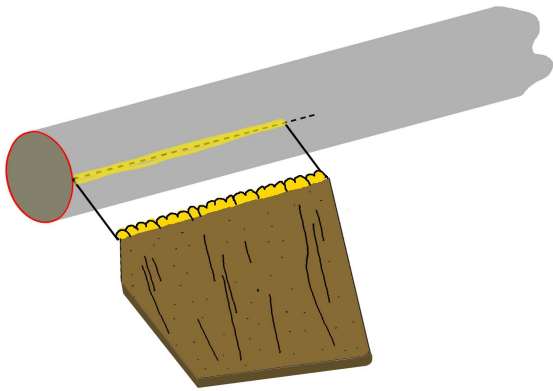

Figure 5
- Step 12** Apply glue to one of the fin lines, directly on top of the thin glue layer applied previously. Apply a similar bead to the root edge of one fin. As shown in Figure 5, carefully press the fin root into the glue on the line, aligning the root edge of the fin with the bottom edge of the tube. Hold the fin in place for about 15 seconds before releasing. Use a 1/4" wide soft-bristle brush, moistened, to remove the excess glue from both sides of the fin joint. Slide the Fin Alignment Guide down from the top of the tube and gently adjust the fin until it fits through the slot. The length of each fin slot is not equal to the full height of the fin, so only push the guide toward the rear until it touches the fin at the top of the slot. Allow the fin to dry before removing the guide. Repeat this step for each of the two remaining fins. Remove the fin alignment guide, then attach the launch lug to the lug alignment line in a similar manner, and allow to dry.